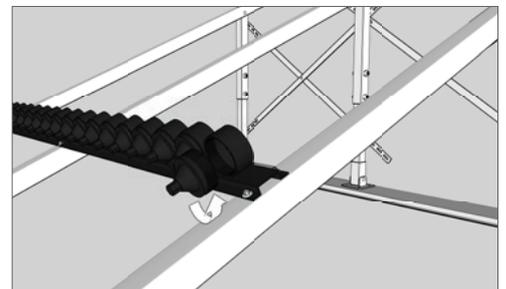

Fig 7
8. Remove the screw caps from the footer rail ready for the installation of the evacuated tubes (Fig 7)